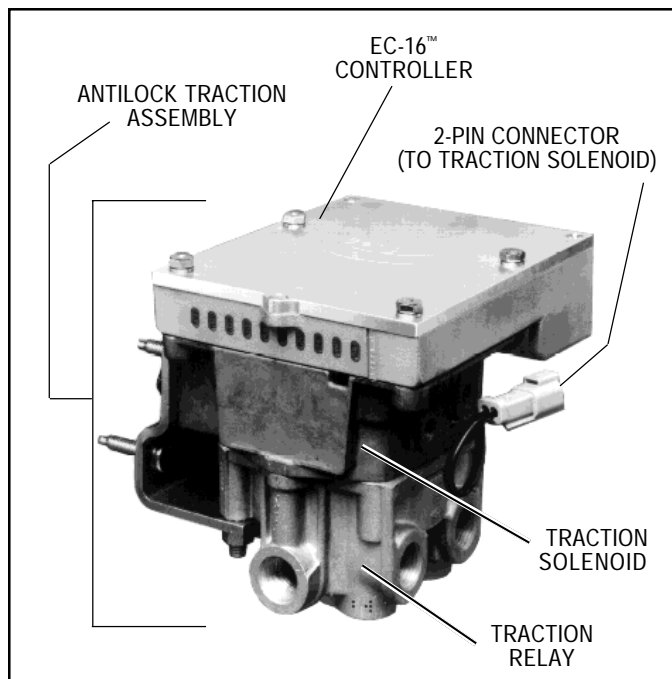

FIGURE 3 - EC-16™ CONTROLLER W/ANTILOCK TRACTION RELAY VALVE
Two electrical connectors located in the controller housing opposite the diagnostic display, connect the EC-16™ controller to antilock and traction system components: one 30 pin and one 18 pin Packard Electric 150 series "Metri pack" connector. In addition to these two housing mounted connectors, the EC-16™ controller also uses a 2 pin Deutsch connector when programmed with the optional traction control feature. The 2 pin connector is linked to a traction solenoid, which is located in the upper portion of the antilock traction relay valve assembly. (See Figure 3.)
The other EC-16™ controller is designed to be mounted on one of four different valves. All of the valves provide the relay function and replace the standard service relay on antilock equipped vehicles. In some instances the valves also provide specialized functions. When the EC-16™ controller is mounted on any of these valves, the result is a final assembly with its own model designation. Refer to the chart and figure 3.
- A connection to the **traction solenoid** (located in the upper portion of the antilock traction relay valve—see Figure 3) is provided via a 2 pin Deutsch connector.